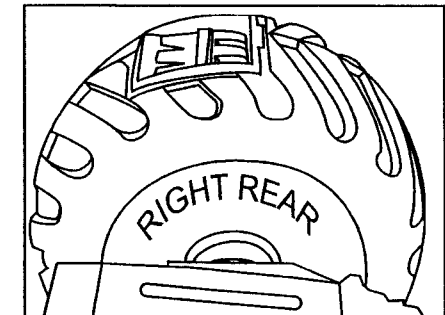

Fig 19
- 1) Check to see that the rotation of the wheel in the correct direction. Look **PRINTING** at the inside of the tire to help you determine which way is correct (**Fig 19**).